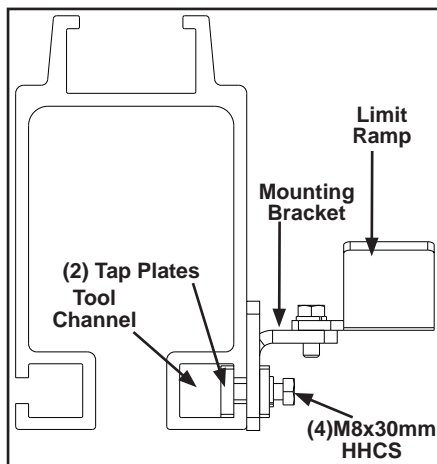

Figure 3-130
- Step 1. Loosen four (4) M8 x 30mm HHCS mounting bracket bolts and slide ramp tap plates and mounting bracket on side of tool channel. Position per system layout. Do not tighten ramp to rail, adjustments will be made in later steps. See Figure 3-130 and 3-131 .